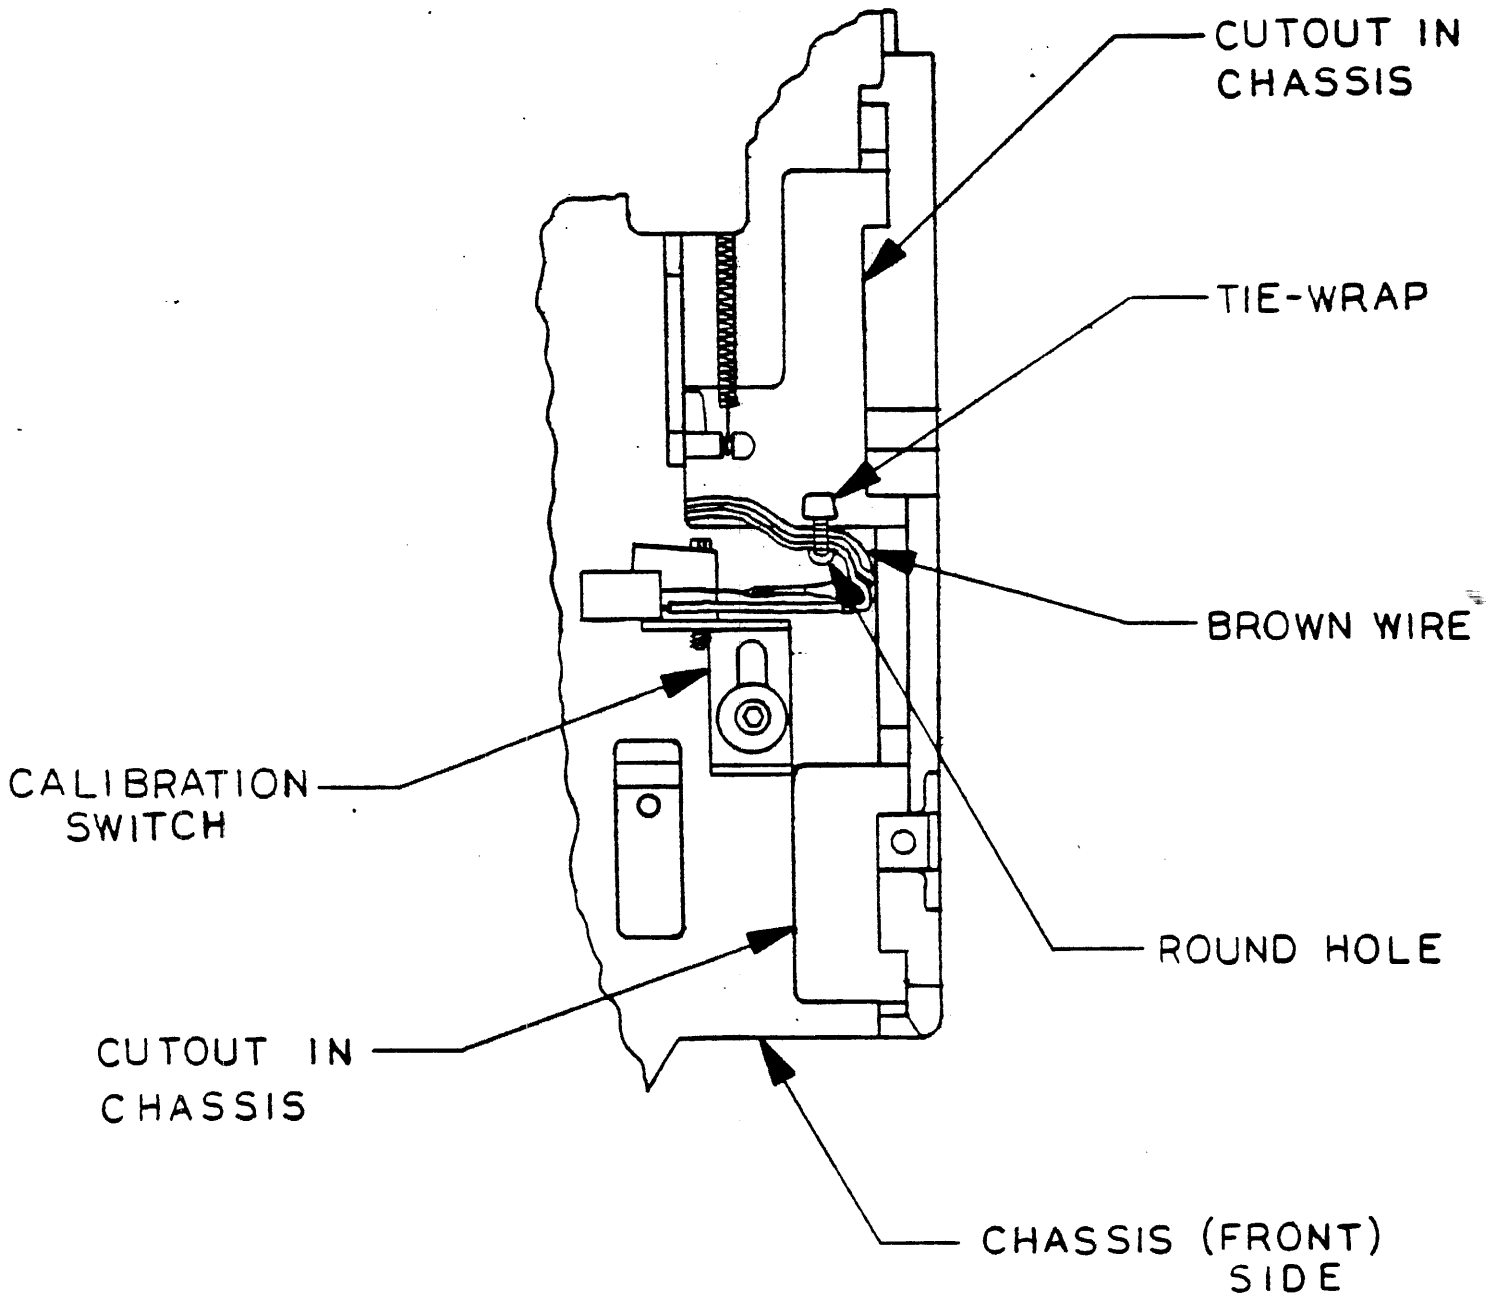

FIGURE 4. THE TIE WRAPING OF THE CALIBRATION SWITCH (TOP VIEW)
- 7.2.2 Extend the wires to the chassis wall and along the opposite side of the round hole in the chassis. (See Fig. 4.) Be sure the brown wire is closest to the chassis wall.
- 7.2.3 Push the calibration switch towards the front of the chassis as far as possible and tighten the screw. (See Fig. 4.) Using a tie-wrap gun set at 2.5, insert a tie-wrap through the round hole and the square cut-out, and tie-wrap the wires there. Insert the wires through the cut-out next to the round hole. Loosen the screw, slide the switch to the other extreme of the slot, (towards the rear of the chassis,) and tighten the screw.